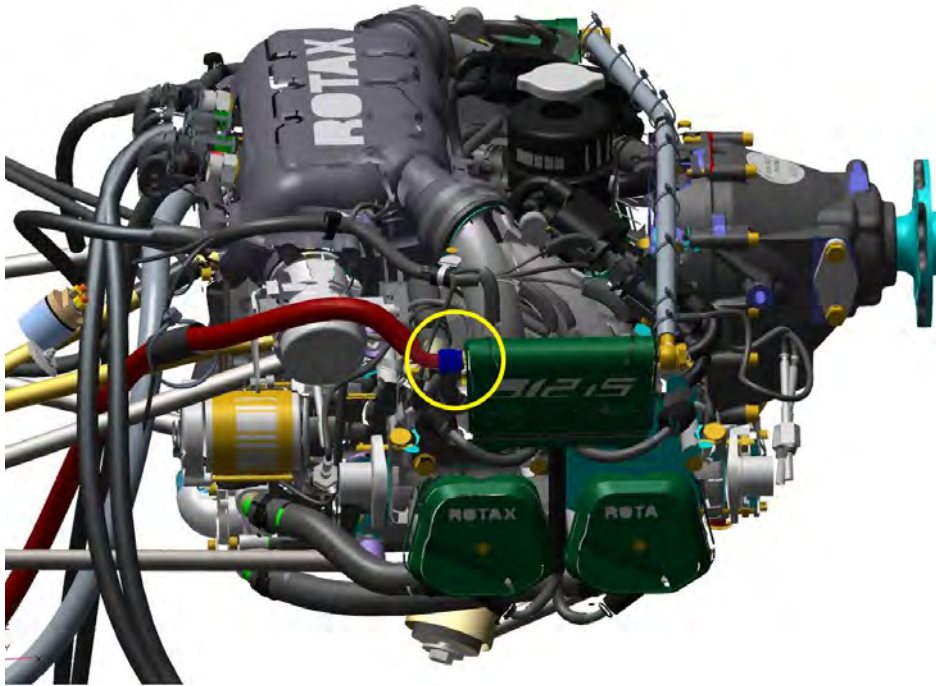

FIGURE 10-1
3. Use an 11/16 wrench to disconnect the fuel supply hose at the fuel rail on the engine's left-forward corner (circled in Figure 10-1). Catch any fuel that drips out.